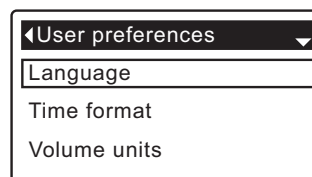

FIG. 52
3. Press the SELECT (O) button to display the User preferences menu (See Figure 52).
7. Press the SELECT (O) button. The display will go back to the User preferences menu (Figure 52).